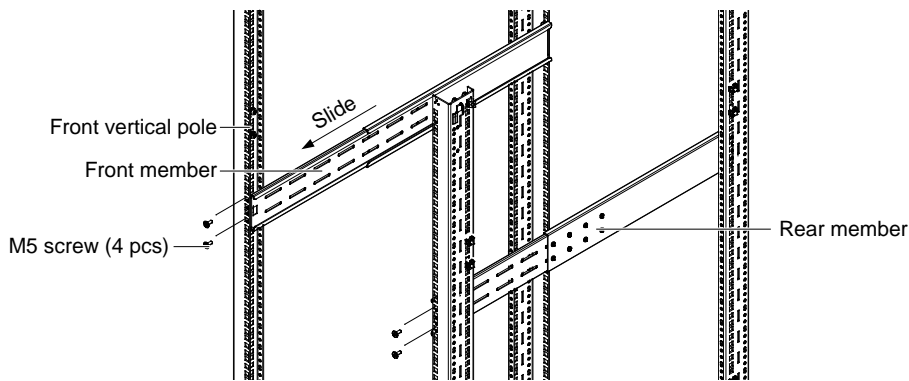

Figure 5-6 Installing front member of each bracket assembly
6. Get eight M4 screws and eight M4 nuts from the hardware pack in this kit. Each nut has a locking, nylon insert that begins gripping the screw when it is halfway tight. Make sure to tighten the nut and screw completely to ensure locking action. Fasten the rear member and the front member together using four screws and four nuts per bracket assembly as shown in Figure 5-6. For maximum support, insert fasteners for each bracket assembly as far apart as possible, depending on rack depth, while still joining both members (see figures at right). Check alignment of bracket assemblies and **TIGHTEN ALL SCREWS FROM Step 3 to Step 5.**